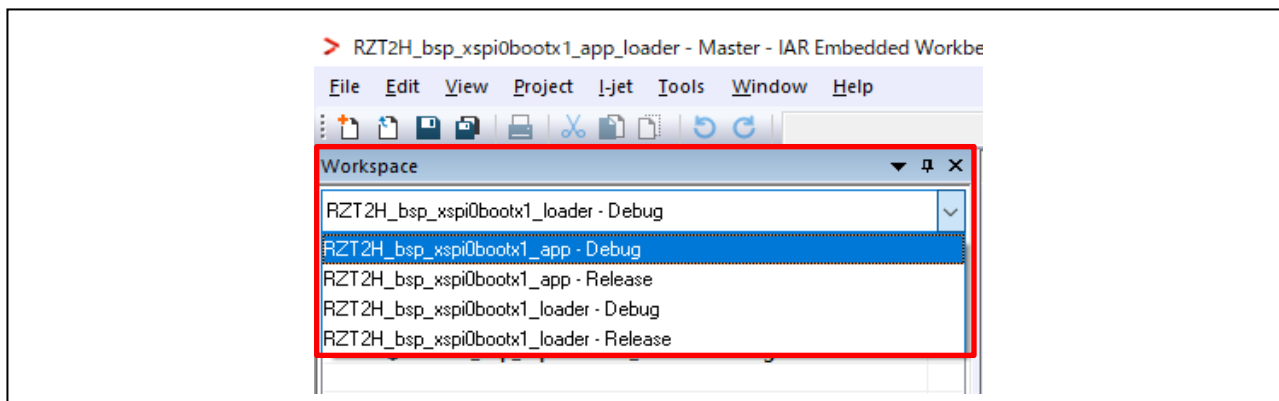

Figure 5-1 Project selection
2. Select "RZ/T2H_bsp_xspi0boot1_app Debug" project in Workspace box as Figure 5-1.